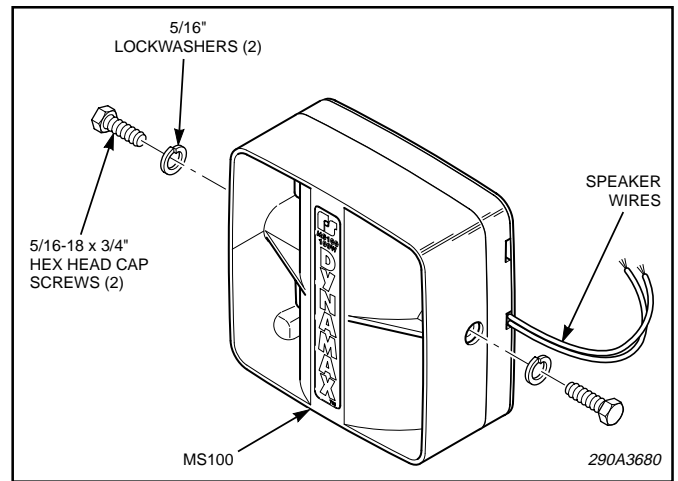

Figure 1.
b. See figure 1. After speaker mounting is completed, connect the two leads from the speaker to the electronic siren's speaker cable. Refer to the instruction sheet packed with the electronic siren for additional details.